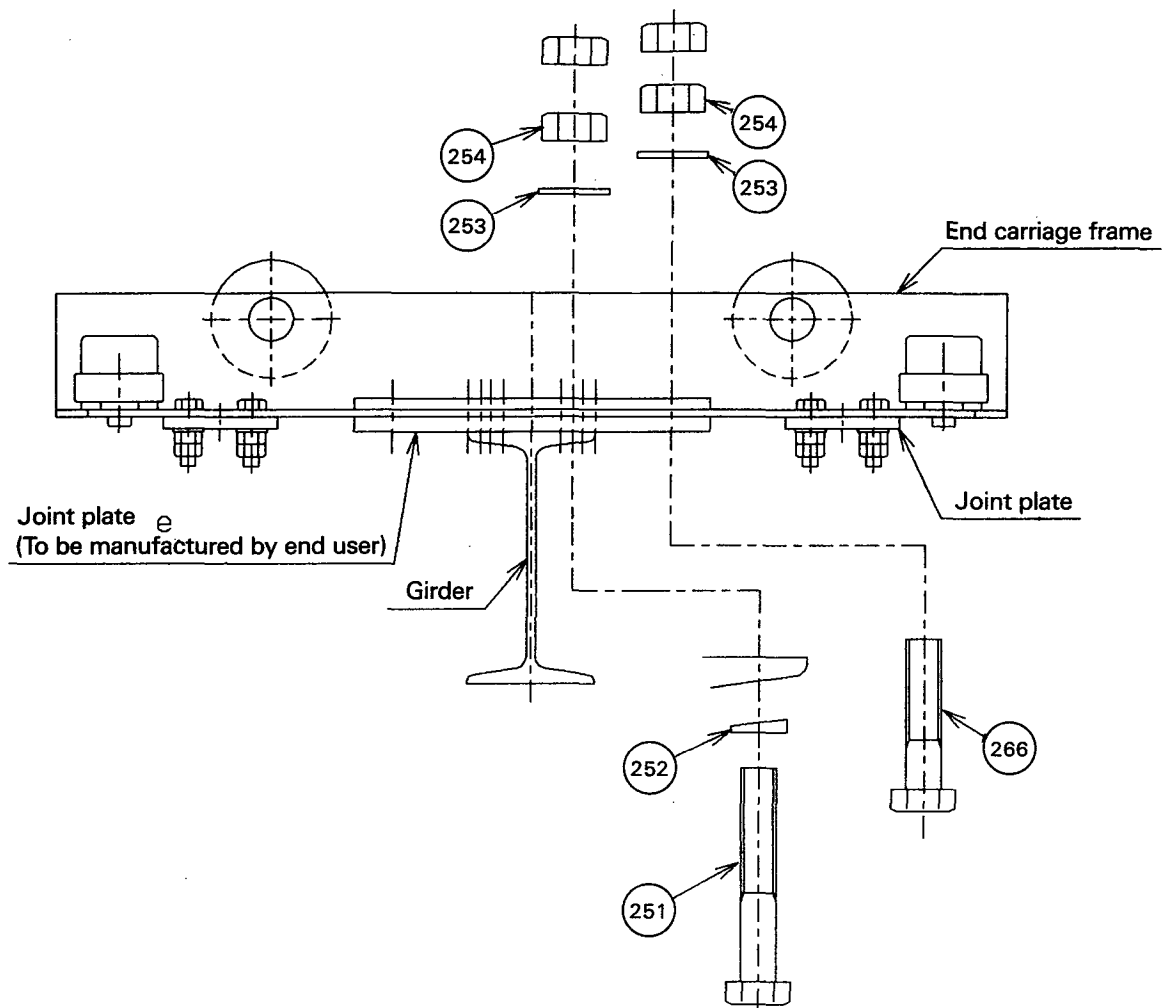

Fig. 6
(1) Assemble parts, as shown in Fig. 6, with the provided bolts, nuts and washers. (Table 4)